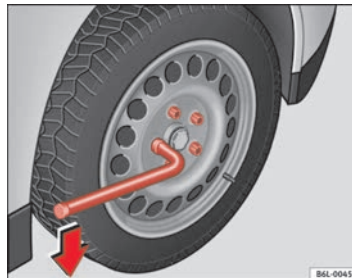

Fig. 128 Changing the wheel: loosen the wheel bolts
- Grasp the box spanner by the end turn it about one full turn to the **left** ⇒ fig. 128.